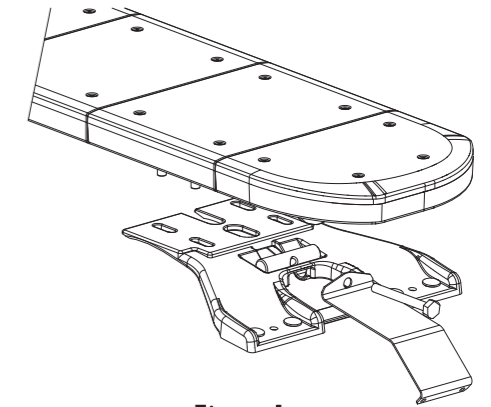

Figure 1
- Slide the hex bolt through the hook bracket hole. See figure 1.